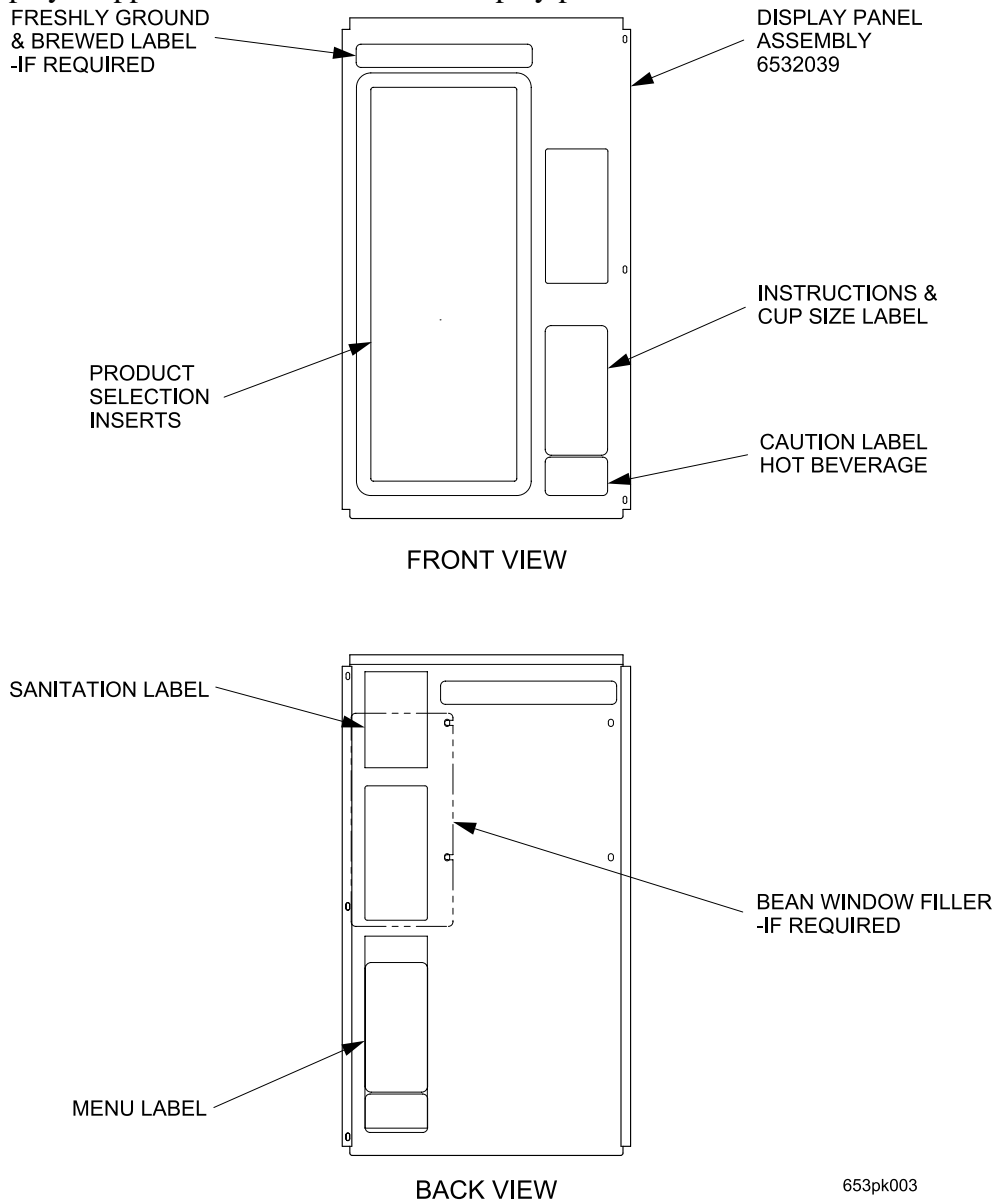

Figure 2
2. Attach labels to the front and back of the display panel assembly (6532039) as shown (see figure 2) (use the old display panel as a guide for locating the labels). Move all of the product selection inserts from the old display panel to the new display panel. Move the bean window filler to the new display if applicable. Discard the old display panel.